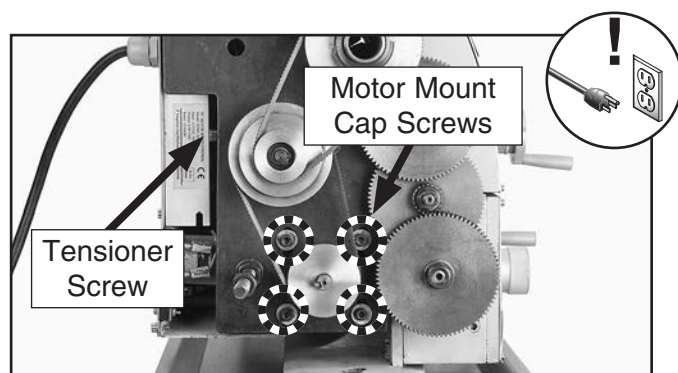

Figure 149. Motor mounting screws (Model G0768 shown).
3. Loosen tensioner screw several turns (see **Figure 149**) to remove tension on V-belts.
4. Remove motor mount cap screws (see **Figure 149**).